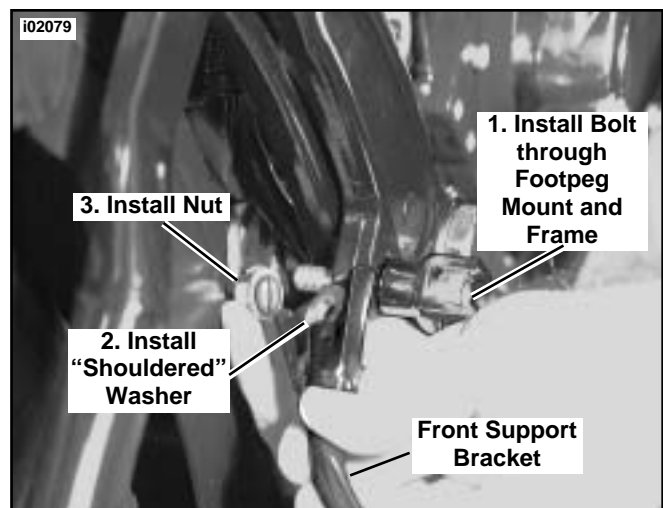

Figure 6. Saddlebag Support Bracket (2000 and later Models)
- a. See Figure 6. Obtain 3/8x16x2-1/4 inch socket head bolt (Part Number 4029A) and install through footpeg mount, thread completely into frame and tighten to 25-30 ft-lbs (34-41 Nm). Threads should be exposed approximately 1/2 inch on inner side of frame.